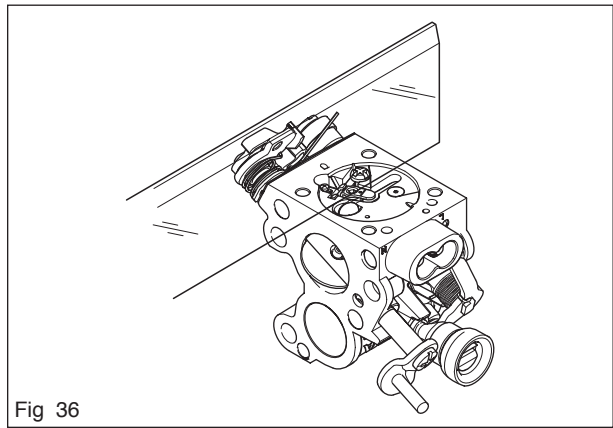

Fig 36
6. Check using a ruler or the like that the lever is level with the assembly plane on the cover. The lever arm can be bent if necessary (see figure 36).